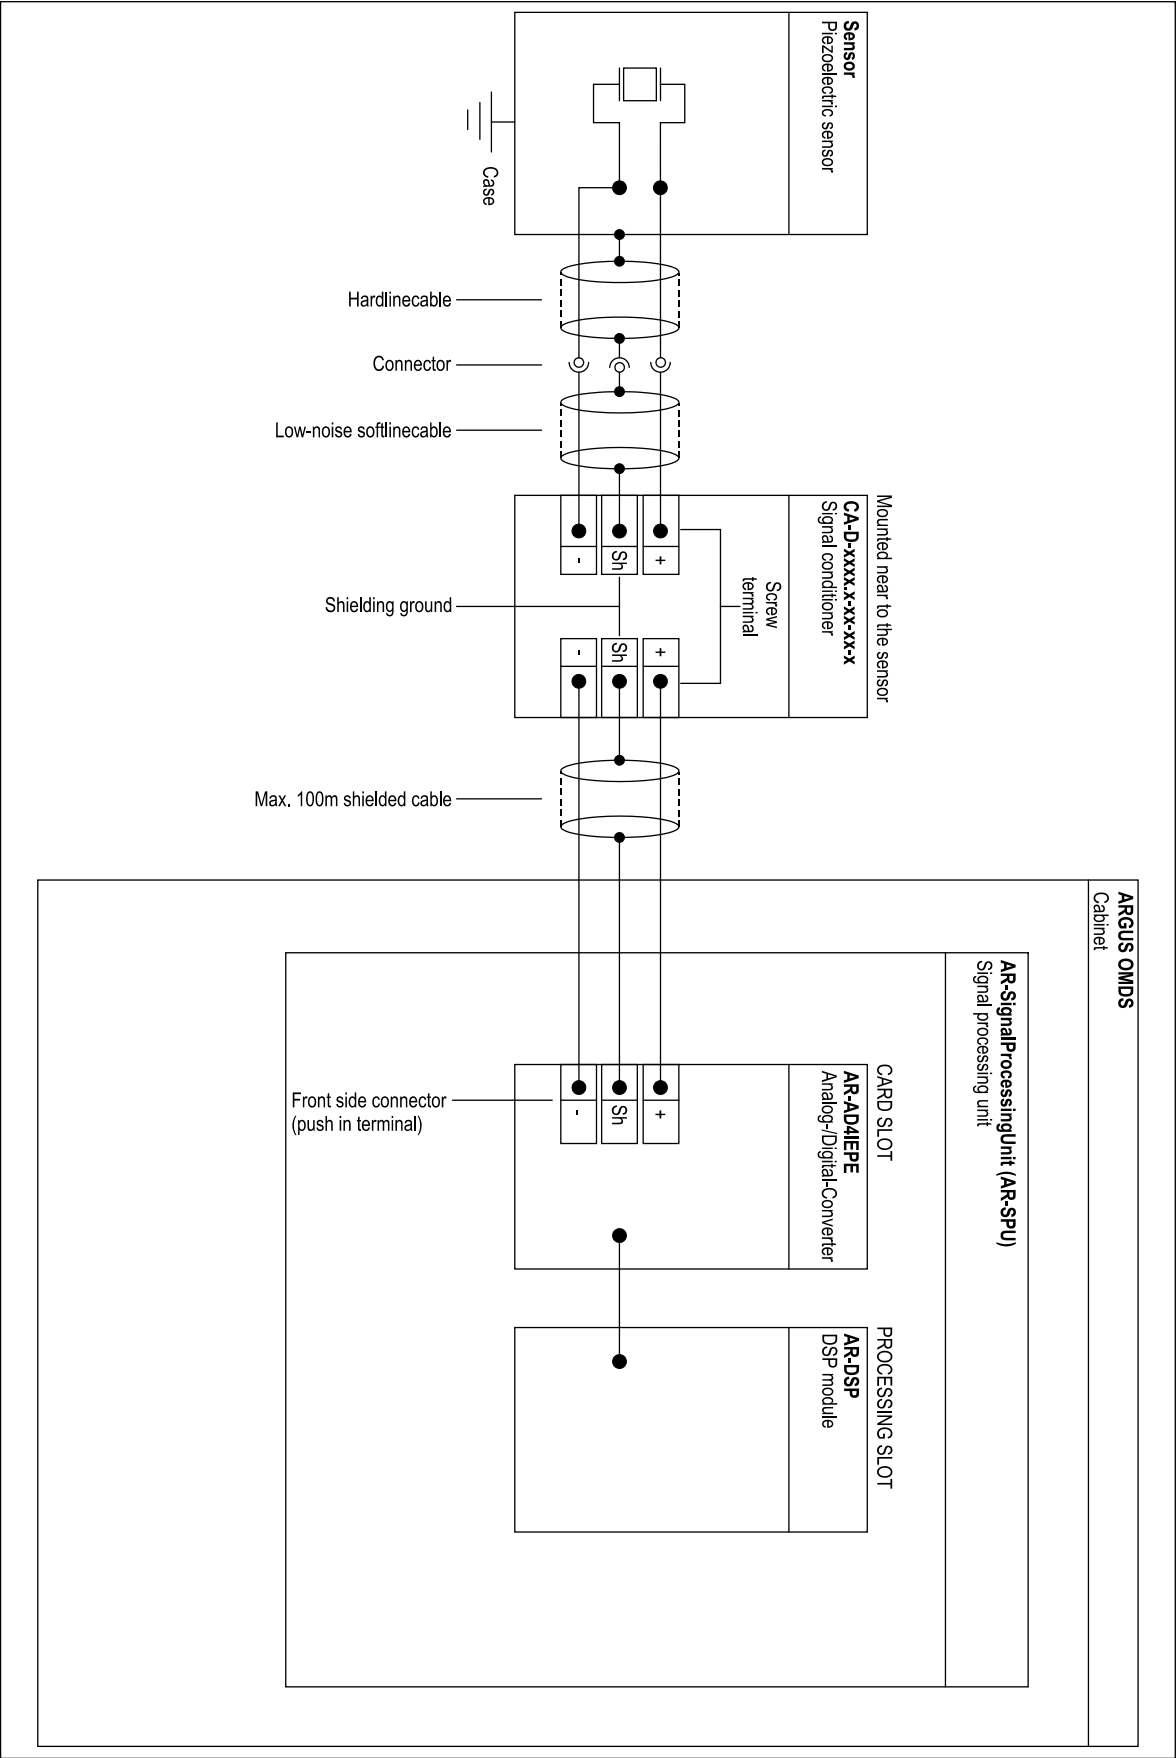
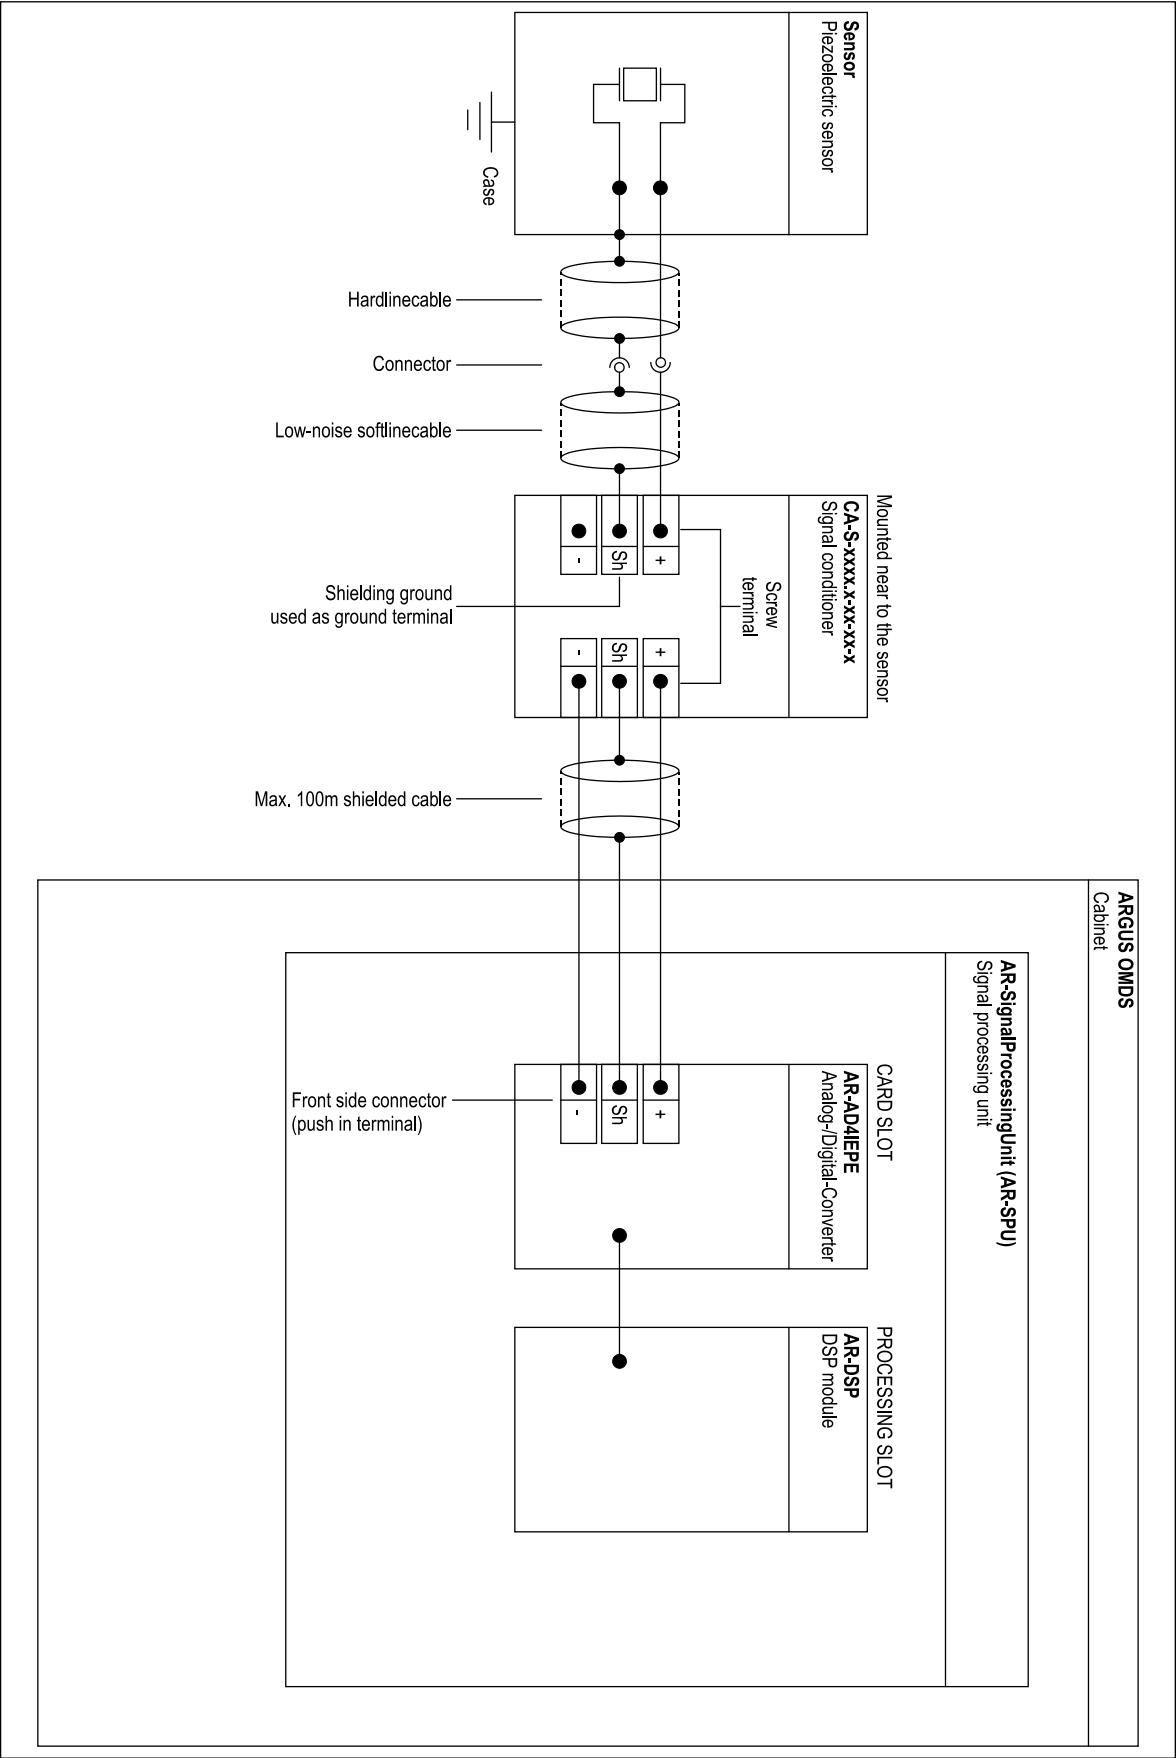

Figure 7: Schematics of the differential mode measurement chain (figure similar, subject to modification)
Figure 8: Schematics of the single ended mode measurement chain (figure similar, subject to modification)
3 pin screw terminal (the exact pin assignment is shown in **Figure 7** and **Figure 8**)
For detailed information regarding the pin assignment see **Figure 7** and **Figure 8** below.
The CA is best used in a measurement setup with the ARGUS® OMDS® system. This chapter includes two example configurations for both differential and single ended mode and the use with an ARGUS® OMDS® system. The schematics are shown in the **Figure 7** and **Figure 8** below.
- (1) Ensure that the cable type is fitting the described specification above.
- (2) Connect the cable to the corresponding pin of the two screw terminals (the exact pin assignment is shown in **Figure 7** and **Figure 8**).
- (3) Install the cover of the industrial housing again.